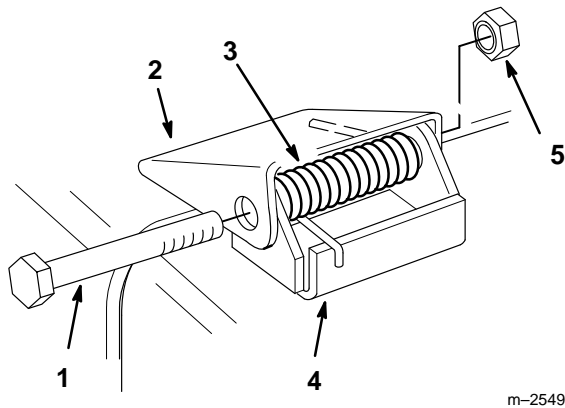

Figure 1
1. Locate the deflector mounts over the pivot brackets and secure with the (2) 3/8–3-3/4" (95 mm) bolts, (2) springs and (2) 3/8" locknuts. Make sure the straight ends of the springs are positioned between the deflector mounts and the grass deflector (Fig. 1).
2. Tighten the locknuts until they contact the pivot brackets (Fig. 1).